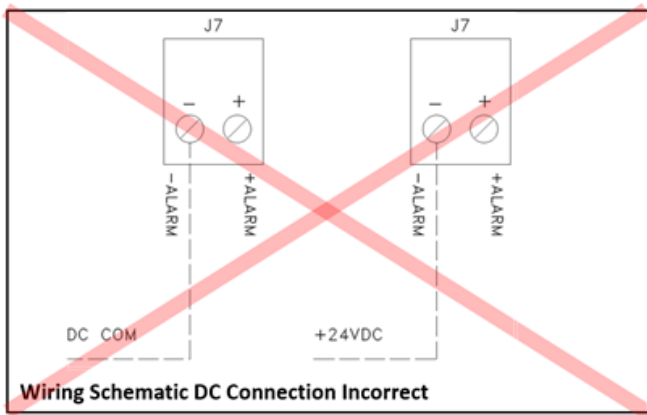

FIG. 2-11 ALARM WIRING EXAMPLE 1
- For 2 circuit DC connection, refer to figures 2-11 – 2-13 below: